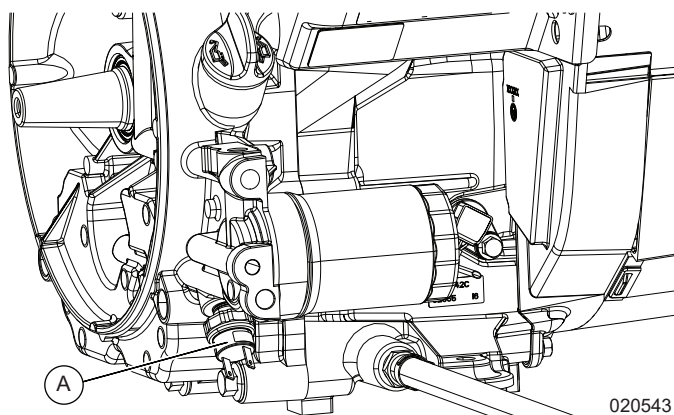

Figure 11-1. Low Oil Pressure Switch
See Figure 11-1. The engine is usually equipped with a normally open type, low oil pressure switch (A) which closes the circuit between the terminals when oil pressure drops below 10 +/- 3 psi (69 kPa). The engine will shut down on low oil pressure if one terminal is connected to the ignition ground wire and the other terminal is connected to ground. The low oil pressure switch can also be connected to an alarm or light to indicate low oil pressure, instead of shutting down the engine.